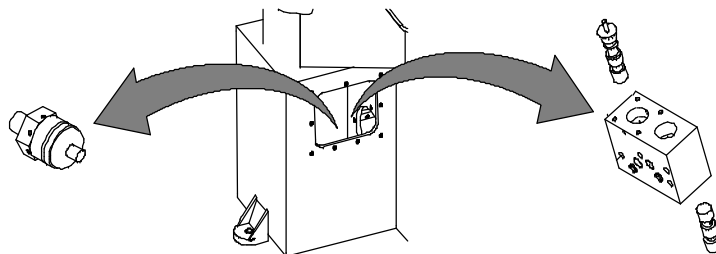

Fig. 25
a) Check the correct functioning of the hydraulic distributor's valve stems (codes: 01011904+01011909, tav. 4-5-6). Check also that there is no dirt preventing good functioning. Check the intervention of the pressure switch (code 02003639, tav. 4-5-6) (Fig. 25).